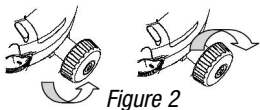

Figure 2
4. Level the vial by the leveling knob (fig. 2).